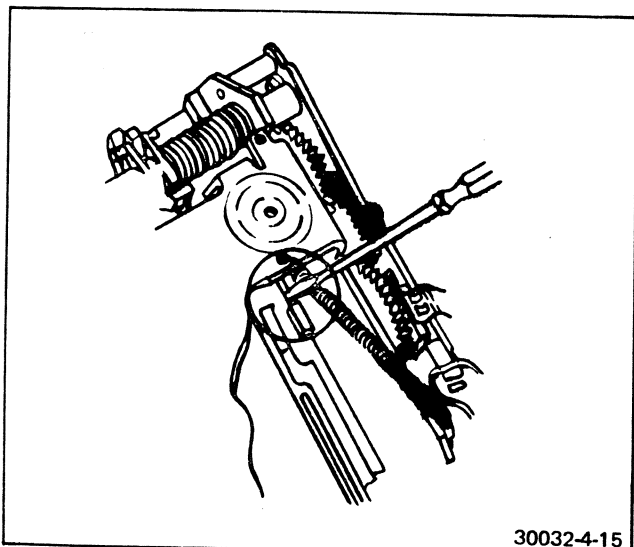

FIGURE 4-15 RELEASE BOOT RETAINER TAB
16. Refer to Figure 4-15. Use a narrow-blade jeweler's screwdriver. While pulling the corner of the mirror cover away from the frame, depress the boot retainer tab to clear the retaining stud. Release the pressure as soon as the tab snaps free.